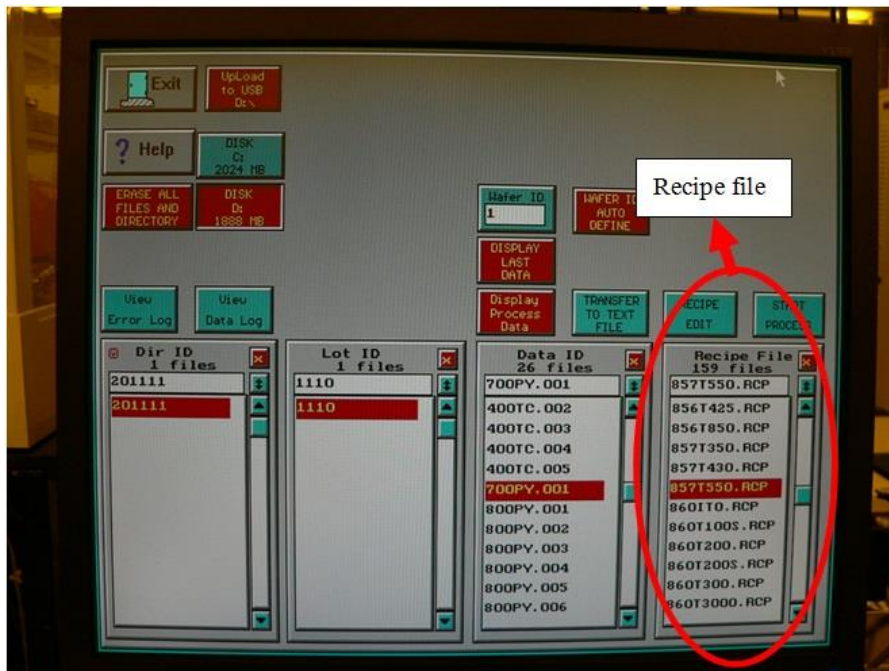

Fig.8 Recipe File in “Process for Engineer menu”
1. Four columns can be found in this menu. Go to the last column “Recipe File”, select the correct recipe and click “Recipe Edit”. All recipes should be in *.RCP format (Fig.8).